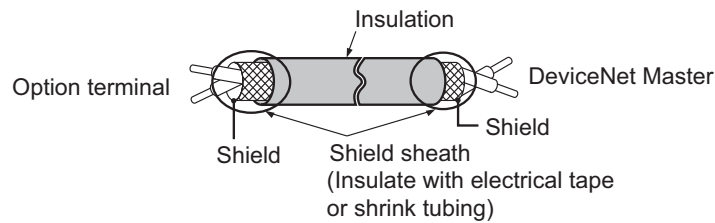
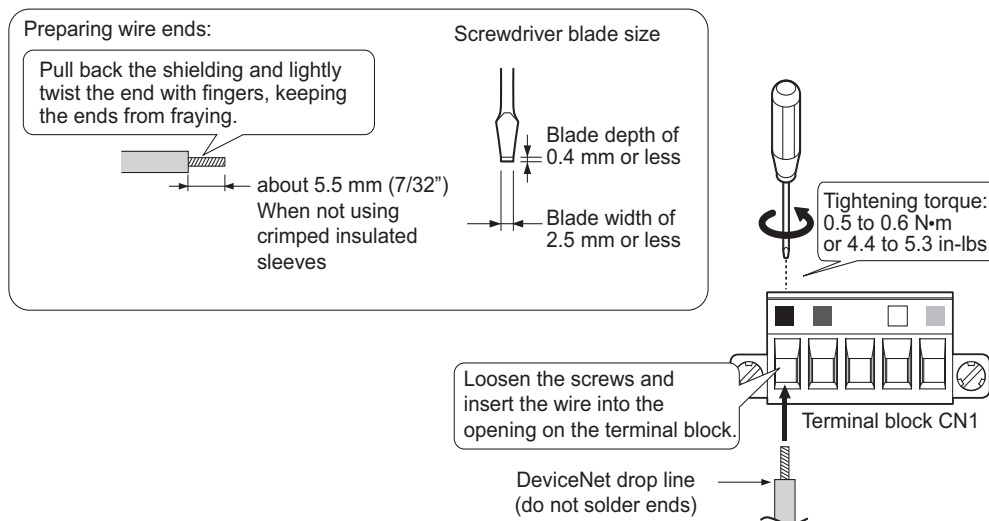

Figure 8 Preparing Ends of Shielded Cable
Figure 9 Preparing and Connecting Communication Cable Wiring
6. Prepare and connect the communication cables to the terminal block as shown in **Figure 8** and **Figure 9**. Take particular precaution to ensure that each wire is properly connected and wire insulation is not accidentally pinched into electrical terminals.